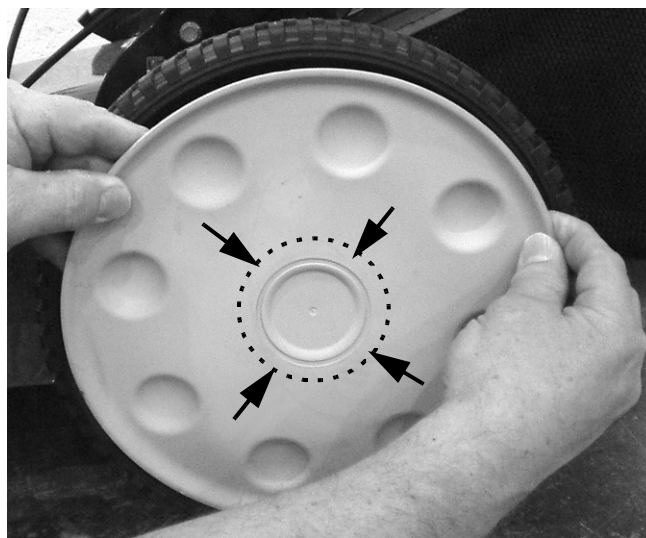

FIGURE 2
3. On the left hand (LH) side of the mower, place a 3"-4" wood block under the deck side just forward of the rear wheel.
4. Remove the hub cap from the wheel by using a flat blade screw driver to pull the edge of the hub cap away from the wheel. Using your fingers, pull the hub cap off of the wheel hub. The hub cap's "snap-on" retaining feature is on a inner diameter hub. See Figure 2.